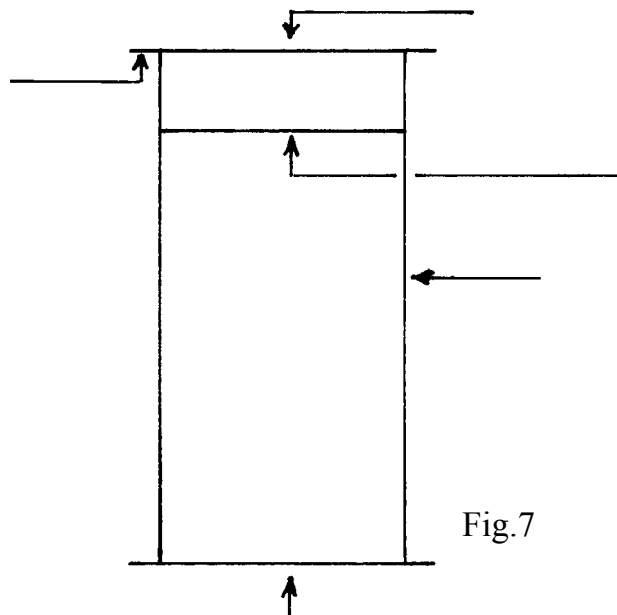

Fig.7
17. Figure 7 shows a line diagram of the front elevation of a door frame and fanlight. On the drawing indicate the following parts:-